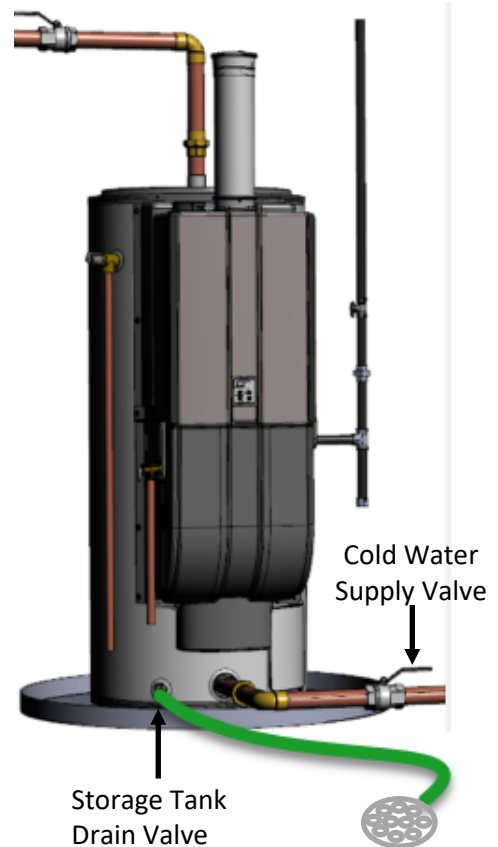

Figure 12. Cold Water Supply and Drain Valves
- 16 Close the storage tank drain valve (turn knob clockwise ) and remove the garden hose (Figure 12).